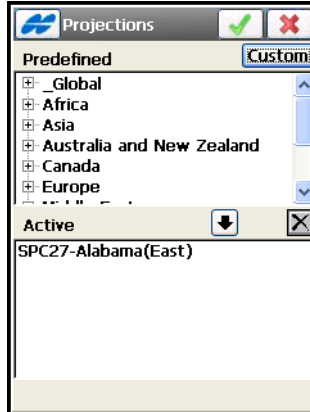

Figure 4-85. Projections
1. On the *Projections* screen, highlight the desired projection from the *Predefined* list (Figure 4-85).
To create a custom projection , tap the **Custom** button in the *Projections* screen (Figure 4-85 on page 4-67). The **Custom Projections** screen displays and contains a list of custom grid projections. Initially, this list is empty.